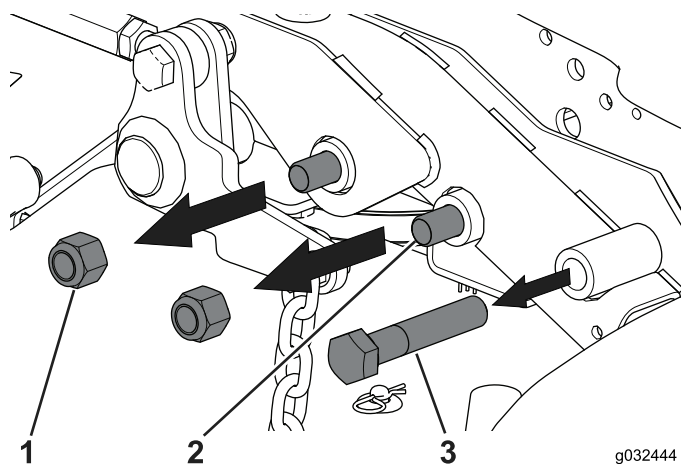
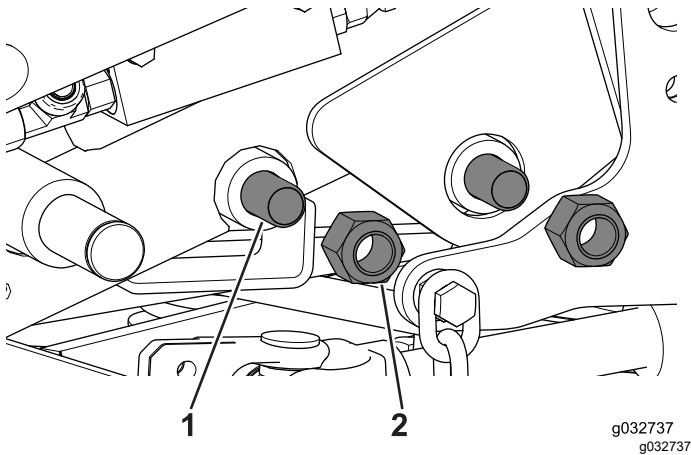

Figure 57
Figure 58
7. Remove the locknuts and bolts securing the summer frame to the machine frame (Figure 57 and Figure 58).